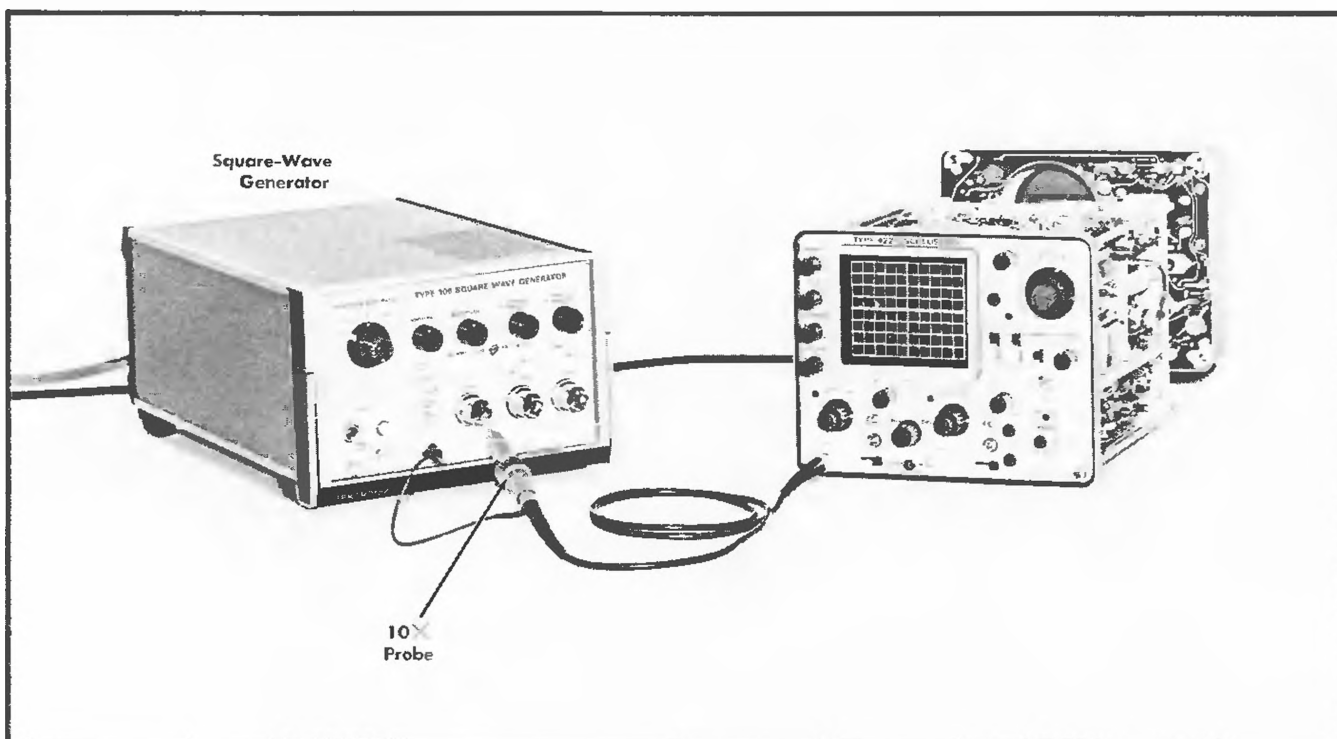

Fig. 6-21. Initial test equipment setup for steps 20–22.
①
- Test equipment setup is shown in Fig. 6-21.